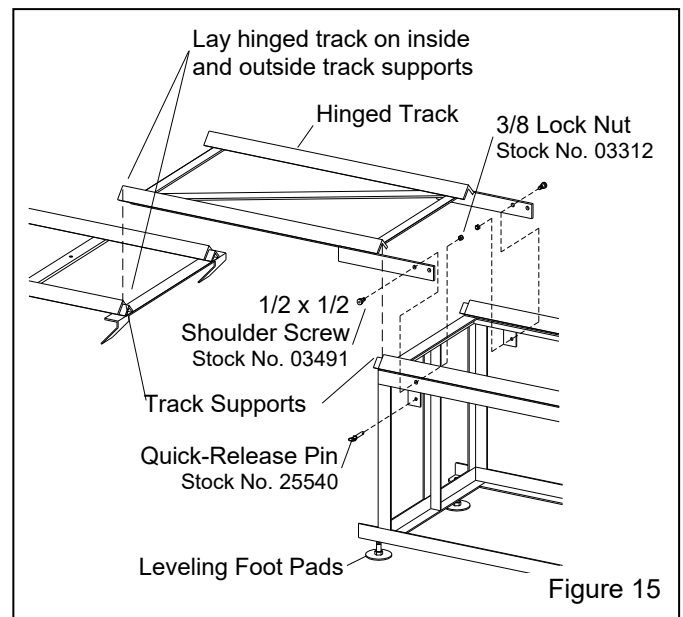

Figure 15
### 3.5.4 Attach hinged track – Figure 15
**3.5.4.1** With the door open, place the hinged track on the inside and outside track supports, as shown in Figure 15. Maneuver the outside track as needed to align the hinge track bolt holes with the outside track bolt holes, while making sure hinge track is fully resting (with no gaps) on the track supports.